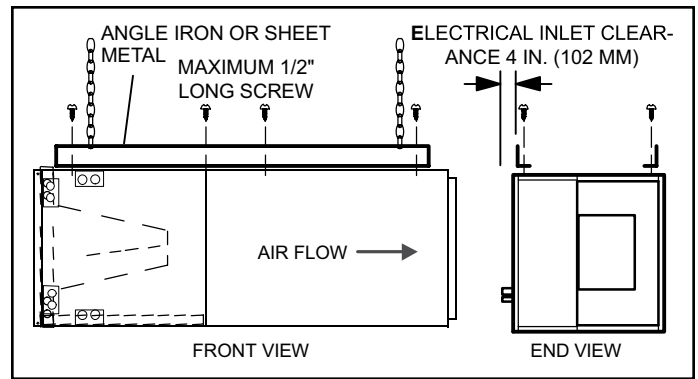

Figure 12. Suspending Horizontal Unit
1. If the unit is suspended, the entire length of the cabinet must be supported. If you use a chain or strap, use a piece of angle iron or sheet metal attached to the unit (either above or below) to support the length of the cabinet. Use securing screws no longer than 1/2 inch to avoid damaging the coil or filter. See Figure 12. Use sheet metal screws to connect the return and supply air plenums as required.
12. If suspending the unit, it must be supported along the entire length of the cabinet. If using chain or strap, use a piece of angle iron or sheet metal attached to the unit (either above or below) so that the full length of the cabinet is supported. Use securing screws no longer than 1/2" to avoid damage to coil or filter, as illustrated in Figure 12. Connect return and supply air plenums as required using sheet metal screws